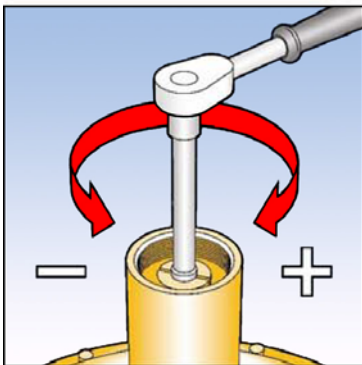

Fig. 4
3. For L.P. 65mm and 80mm unit insert ½" square socket extension piece into square hole, or flat blade screwdriver into slot in spring adjuster. See Fig. 4.